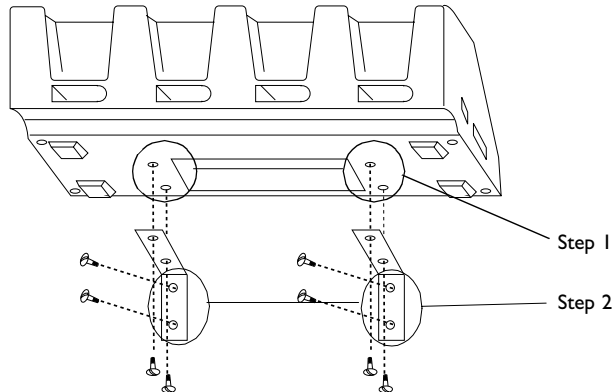

Figure 2-12. Wall Mounting the CCM
1. Attach the wall-mounting brackets to the bottom of the CCM using the screws provided (Figure 2-12)
3. Insert the appropriate wall-mounting hardware into the bracket holes as shown in Figure 2-12 and secure.